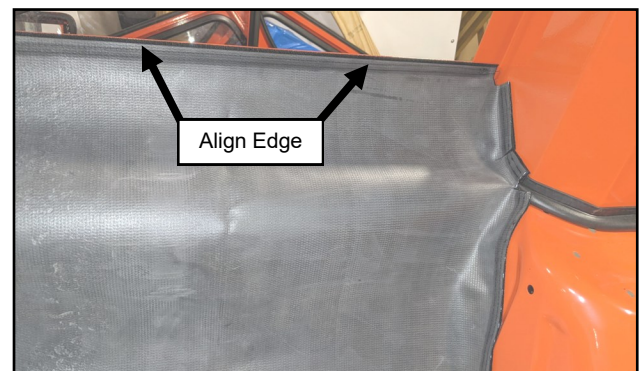

Fig. 19.5 (Secure Filler to Lower Rear Panel)
- 19.5** Align the rear edge of the filler to the top edge of the Lower Rear Panel. See Figure 19.5. Center the filler side to side on the Lower Rear Panel and secure the Velcro to the panel.